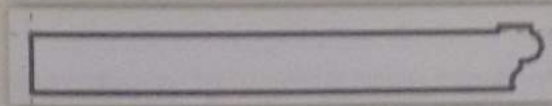

Figure 93: Sweep Profile.
2. Create a closed profile using line tools from detail panel (Figure 93).